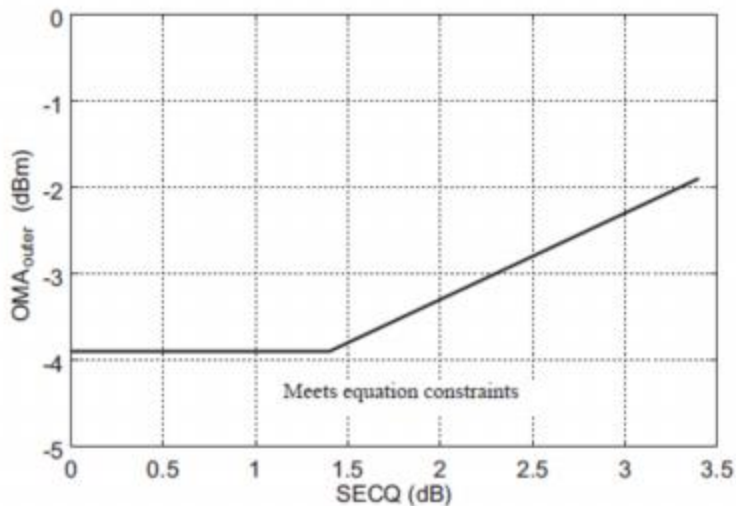

Figure 4. Illustration of Receiver Sensitivity Mask for 800G-DR8
6. Receiver sensitivity (OMA_{outer}), each lane (max) is informative and is defined for a transmitter with a value of SECQ up to 3.4 dB. It should meet Equation (1), which is illustrated in Figure 4.